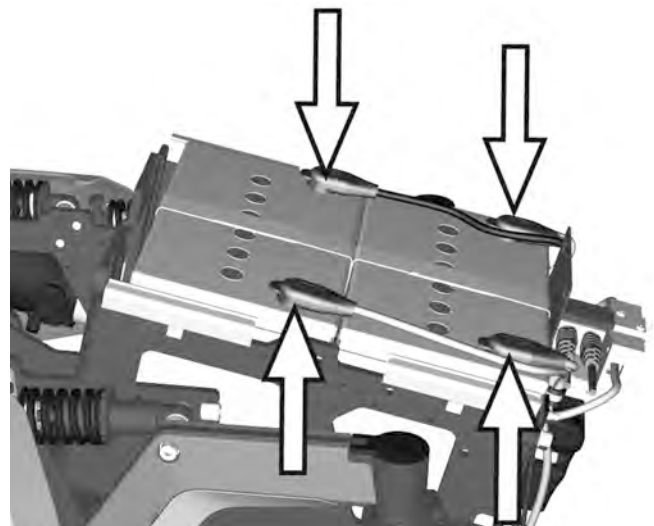

Figure 32. The batteries and their connectors.
9. Loosen the battery connections. See fig. 32.